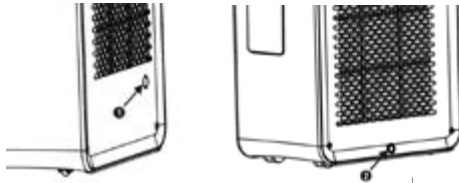

Fig. 10.
2. In heating mode, remove the rubber plug (2) of the drainage hose (Fig. 10), install the respective drainage hose to improve heating efficiency.
3. In dehumidification mode, remove the rubber plug (2) of the drainage hose, install the respective drainage hose.